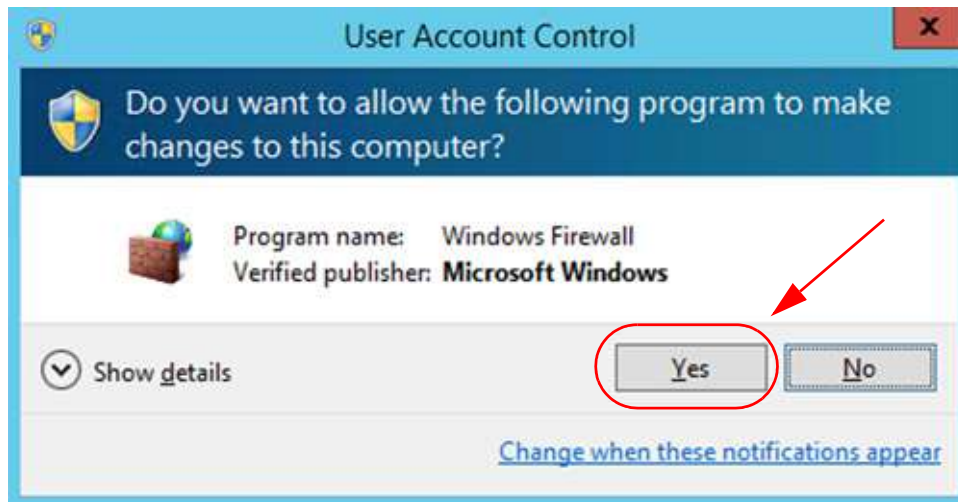

Figure 3.5: Windows Server 2016/2019: User Account Control
5. From the User Account Control screen, select "Yes". Figure 3.5.